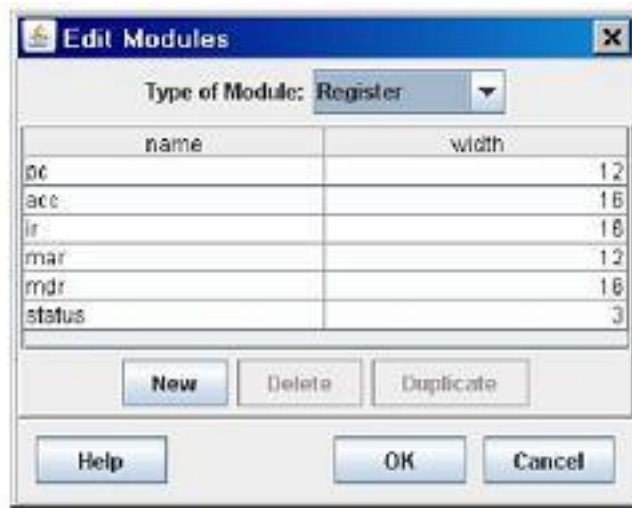

Figure 2: The dialog for editing the hardware modules.
3. Select “Register” as the type of module and then click the “New” button six times. Edit the name and width of each of the six registers so that they match the specifications of the Wombat1 given in the previous section (see Figure 2).